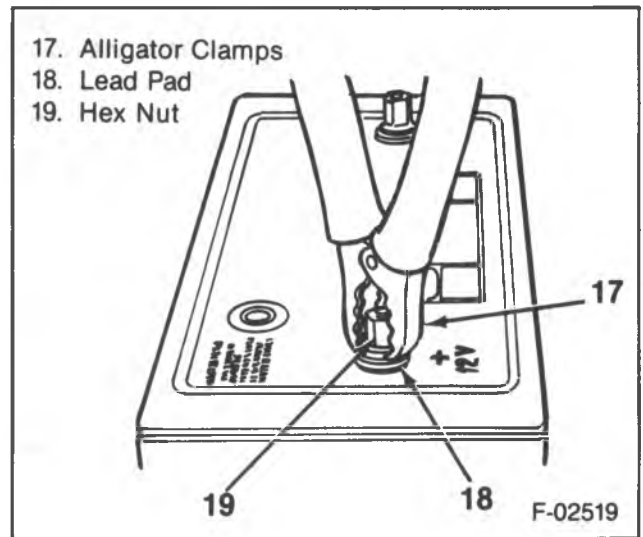

Figure 5 — Testing and Charging, Using Top Terminal Adapter
4. Attach terminal hex nuts, AC Delco #7802, or equivalent (figure 5).
5. Attach the alligator clamps of the tester or charger between the terminal nuts and the lead pads of the terminal studs (figure 5).